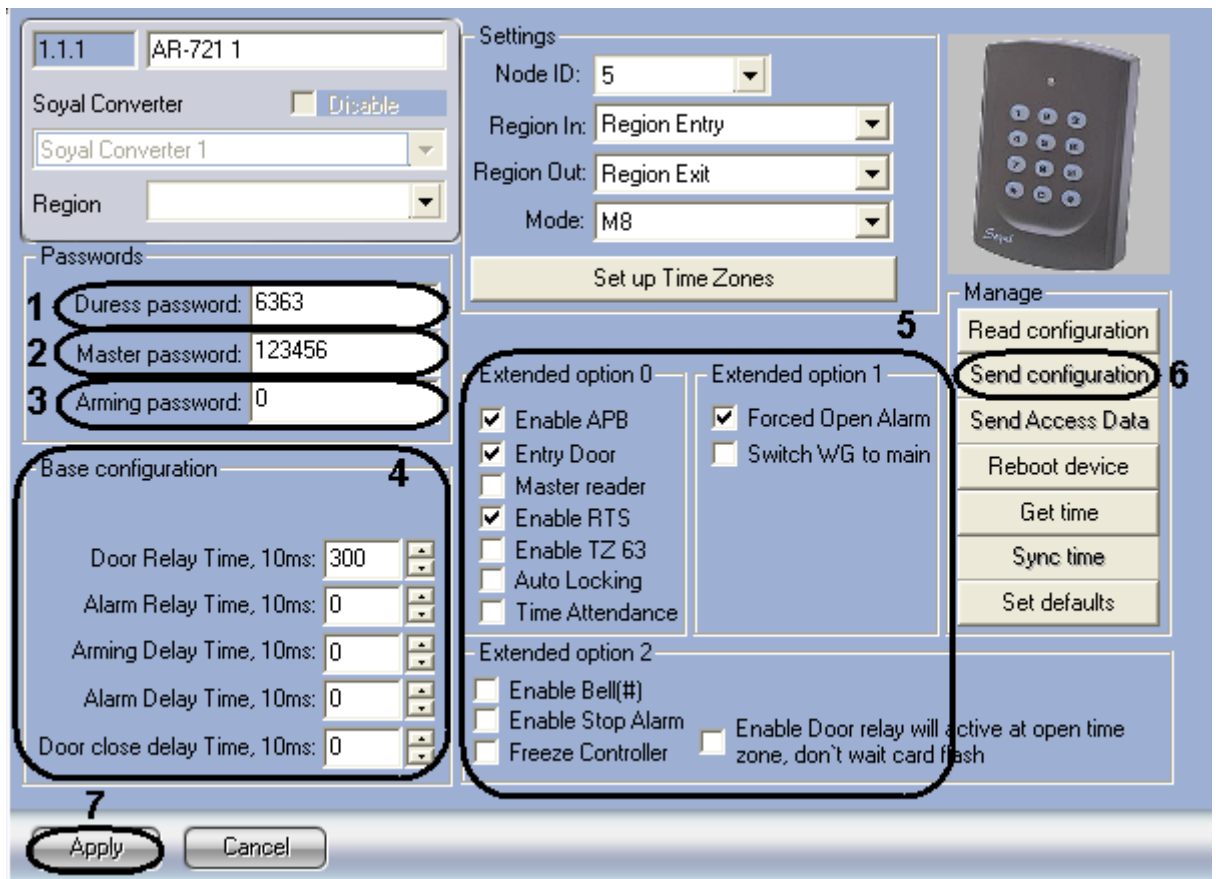

Figure 2.5—4 Manual configuration of AR-721 controller
3. In the **Master password** field enter the code which allows programming device (Figure 2.5—4, 2).
4. In the **Base configuration** section enter the time of relay activation and delay time (Figure 2.5—4, 4).
5. In the **Extended option** sections select the needed function settings checkboxes (Figure 2.5—4, 5). Descriptions of all options see in the vendor documentation.
6. Click **Send configuration** to write settings to the AR-721 controller (Figure 2.5—4, 6).
7. Click **Apply** to save changes (Figure 2.5—4, 7).